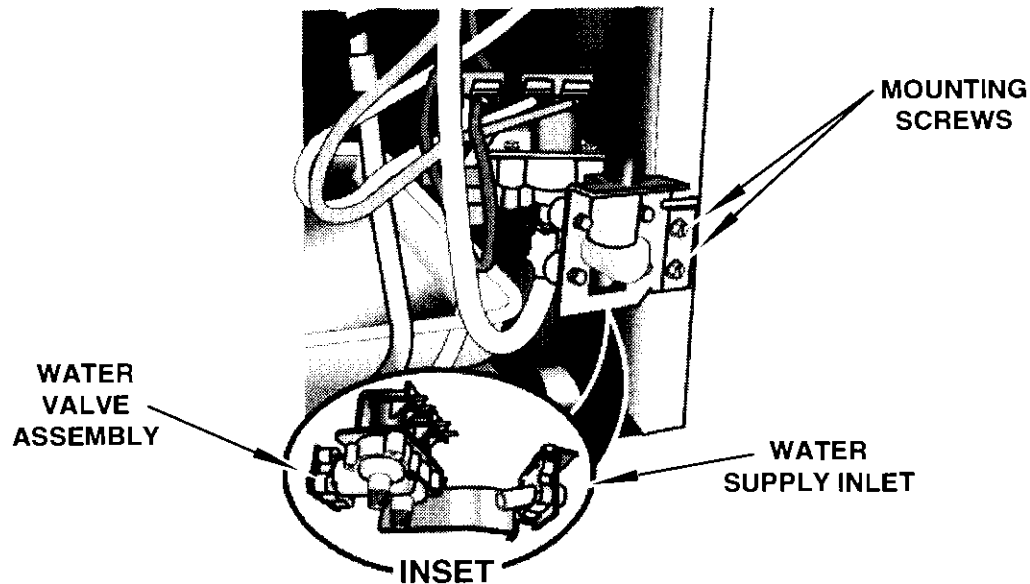

Fig. 9
The water supply connection to the refrigerator/freezer is mounted on a bracket that also contains the water dispenser and fill valve assembly. (fig. 9, INSET) This bracket is mounted to the rear of the refrigerator/freezer at the lower right of the component compartment with two (2) Hex-head screws. (Fig. 9)